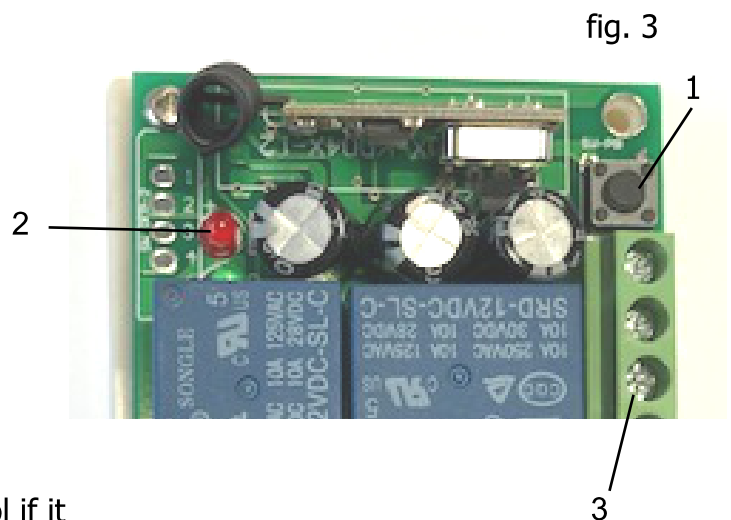

fig. 1
- 3) Press the button on the remote control (Fig. 1 No. 1). The LED (fig. 3 no. 2) flashes once after the hand-held transmitter detection. The coupling was successful.